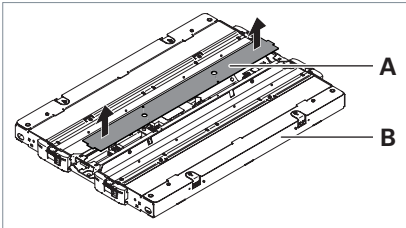

Fig. 1: Removing the cover.
- Remove the cover **A** from the light head **B**, see Fig. 1.